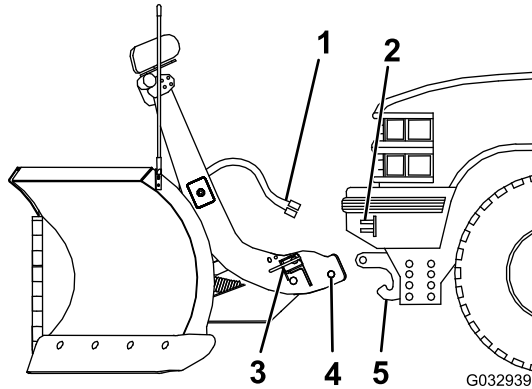

Figure 30
2. Line up the vehicle with the snowplow and slowly drive forward until the lower pin contacts the push-beam pin receiver (Figure 30).
4. Remove the electrical-plug dust-covers and connect the plow wire harness to the vehicle wire harness (Figure 30).